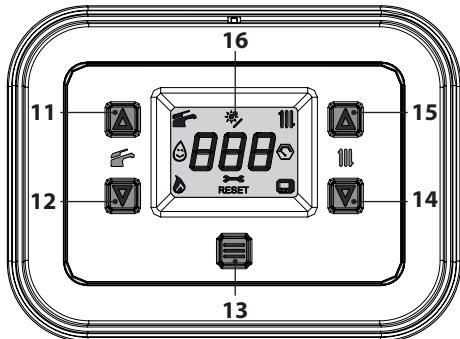

Figure 6.6
- Press button 13 for 5 seconds until both symbols  and  appear on the display (Figure 6.6).
- Turn off the boiler by pressing button 13 (Figure 6.6) for 5 seconds until the symbol  appears on the display (the dashes light up in sequence to simulate a scrolling motion) (Figure 6.5).